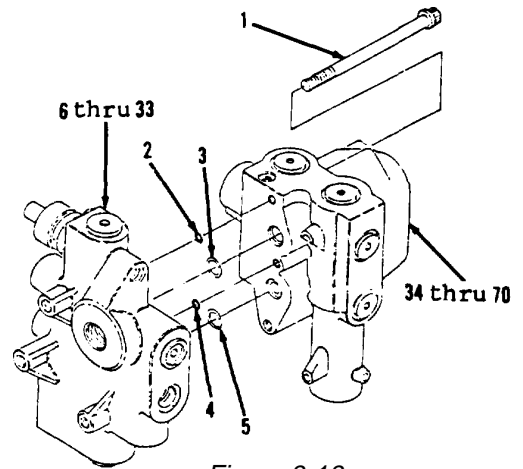
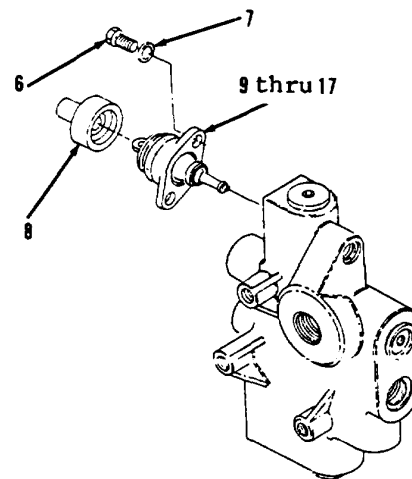

Figure 8-18.
Figure 8-19.
1. Remove three bolts (1, Figure 8-18).
2. Remove items 6 thru 33 as an assembly from items 34 thru 70 as an assembly.
4. Remove two bolts (6), washers (7), boot (8) and items 9 thru 17 as an assembly (Figure 8-19).